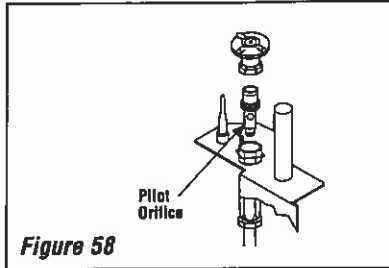

Figure 58
Step 6. Refer to *Figure 58* and remove the pilot hood assembly to access the hexed pilot orifice. Remove and replace the orifice with the one provided with the kit.